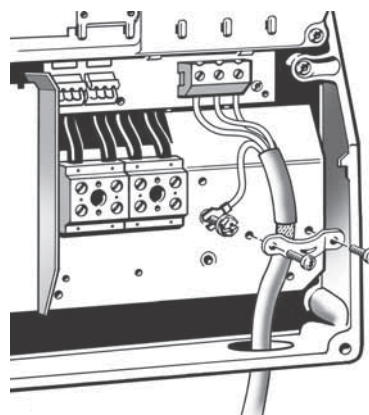

Fig. 15 Motor connection, B1 and B2
1. Connect the ground conductor to terminal 99 (PE), see fig. 15.
2. Connect the motor conductors to terminals 96 (U), 97 (V), 98 (W).